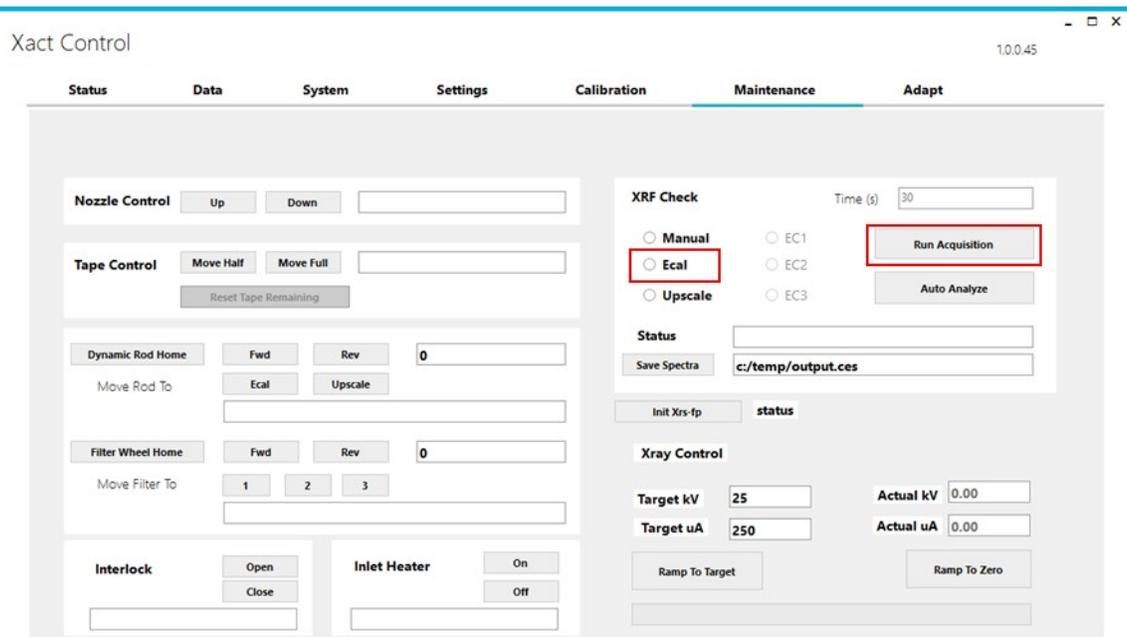

Figure 10.7 Settings for performing Energy Calibration manually.
- Within 'XRF Check' section, select "Ecal" (**Figure 10.7**).